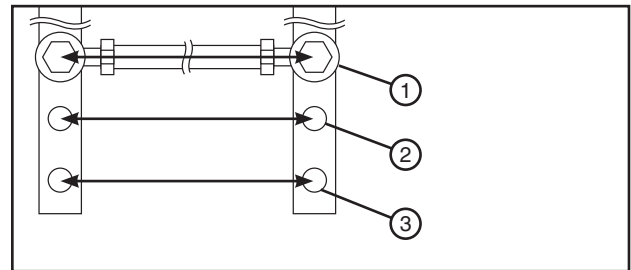

Figure 85-3 Connection Rod Sensitivity
- Sensitivity can be adjusted by repositioning the connection rod. See figure 85-3.